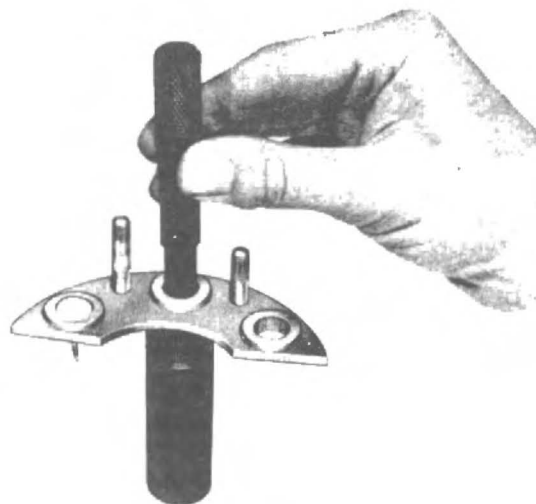

Fig. 13 - Removing Rectifiers from Heat Sinks.
(1) Grind the end of the screw to  $23/64$ " diameter for a distance of  $7/16$ ".
(2) Turn a  $\frac{1}{2}$ " radius on the end of the ground section to allow the tool to centre itself on the end of the rotor shaft when tightening.
(3) Harden the ground section of the screw.
(5) If the rectifiers must be replaced support the heat sink or the end head (see Fig. 13) and press out. Do not hammer. Both positive and negative rectifiers are removed in the same manner. Use Tool No. CA-3771.
(6) To separate the drive end head from the rotor assembly remove the pulley nut. If necessary use rope or wood to grip the pulley in a vice while removing the nut. Do not grip the rotor poles in the vice as they may be damaged.